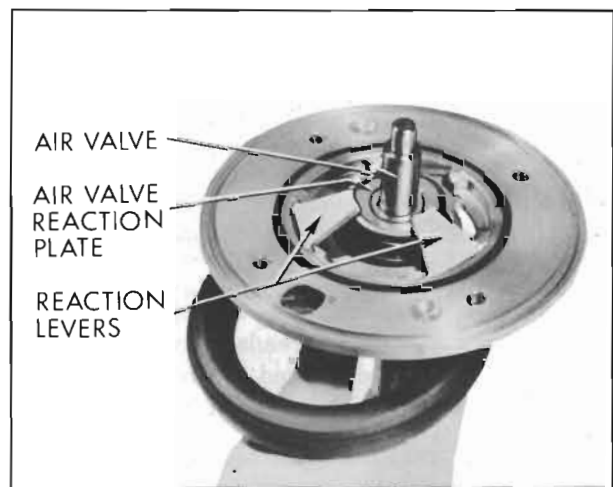

Figure 9-21—Installing Parts in Power Piston
10. Wipe a thin coat of silicone grease on both sides of reaction levers. Place wide ends of reaction levers in their seats in the power piston, and rest narrow ends on air valve reaction plate. See Figure 9-21.